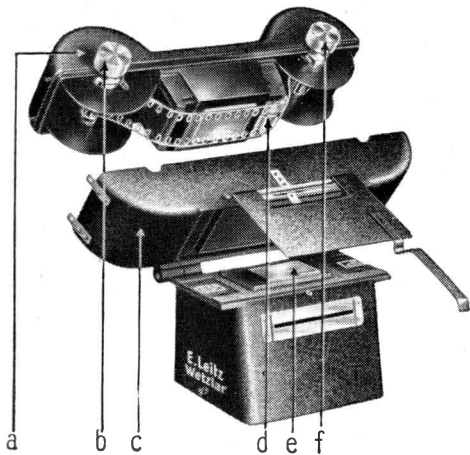

Fig. 3 Positive film attachment.
2. Detach the upper part **a** of the film housing (fig. 3) and lay it down in front of you with the film spools now visible on top and with the toothed roller **d** (fig. 3) at the left. Switch off all white light in the darkroom.
3. Push the pointed end of the positive film, with its coated side towards the axis of the spool, in the direction of the engraved arrow under the film clip on the film spool **b** (fig. 3) on the right marked with an engraved L and see that it is securely gripped; then wind up the film with the coated side inwards. During this operation it is advisable not to remove the spool from its place at all.
4. Trim the free end of the positive film to a point and then, with the coated side outwards, push it in the direction of the engraved arrow under the film clip of the second film spool **f** (fig. 3) marked with an engraved R and, with a single turn of the spool in the direction of the arrow engraved on the head of the spool, wind it on so that the end can no longer become detached from the clip. During this action the spool is best left in its position in the film housing.
5. Now draw the film tight by turning the film spool **f** (fig. 3) in the direction of the arrow engraved on the milled knob and the other spool in the opposite direction.
6. Replace the upper part **a** of the film housing on its base **c** (fig. 3).
2. Lift the film attachment slightly in its hinges, as shown in fig. 1, so that the positive and negative films are not in contact with each other and cause scratches when the positive film is wound on. Make sure that the positive film winds on properly by turning the knob **f** of the spool (fig. 3) in the direction of the arrow. At regular intervals a slight clicking will be heard, from a detent spring on the toothed sprocket. After one click the positive film is moved on by the length of the standard cine size 18 x 24 mm ($1 \times \frac{3}{4}$ in.); the second click indicates that the film is moved on by the length of the LEICA size 24 x 36 mm ($1\frac{1}{2} \times 1$ in.).
1. When the film attachment is raised two little diagrams of houses are seen engraved on the film track **e** (fig. 3), one horizontally and the other vertically positioned. These two diagrams are meant to show how the single negative images must be arranged in the image aperture, so that they can be printed as horizontal or upright pictures and can be projected later in the proper sequence with our semi-automatic miniature projectors.
2. After the exposure, the film housing is again raised and the positive film moved on by turning the knob **f** of the spool (fig. 3) in the direction of the arrow by one click for a 18x24 mm. frame or two clicks for a 24x36 mm. frame.